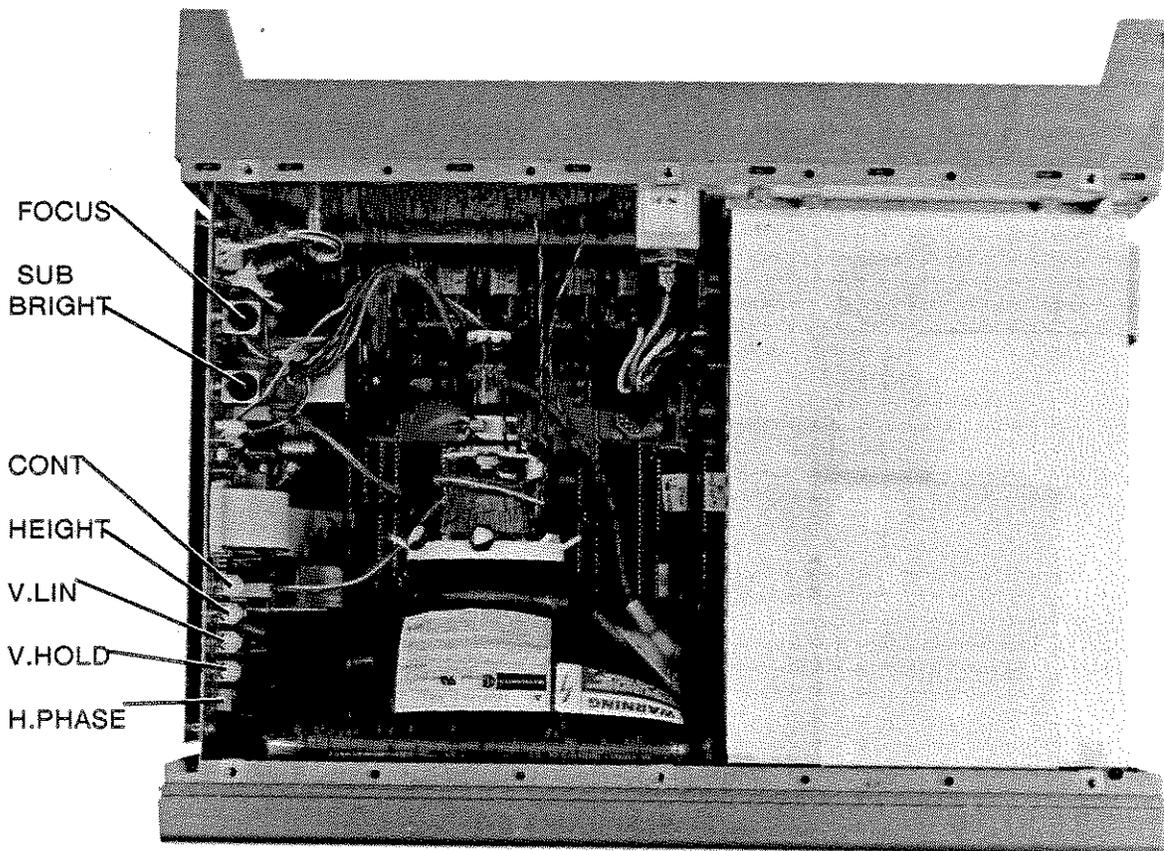

Figure 4-3. Adjustment Locations of HP 54501A CRT Monitor Assembly
2. Refer to figure 4-3 for CRT adjustment locations.